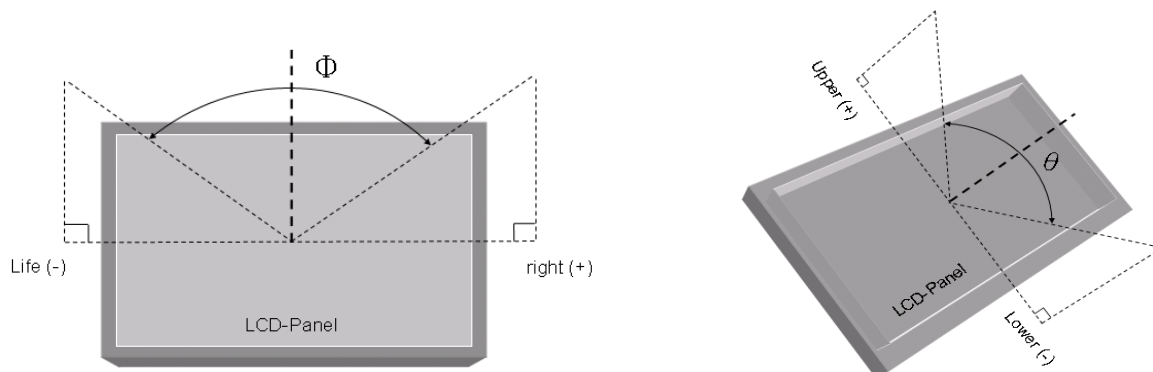

Fig 8-2 Definition of Viewing Angle
*4) Definition of Viewing Angle(θ, ψ), refer to Fig8-2 as below :